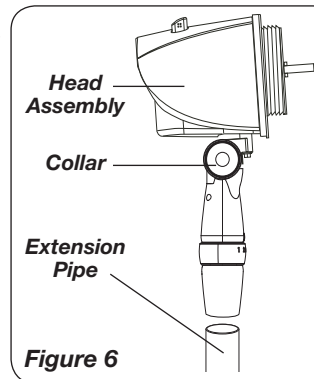

Figure 6
1. Place Head Assembly with Collar onto Extension Pipe. (Figure 6)